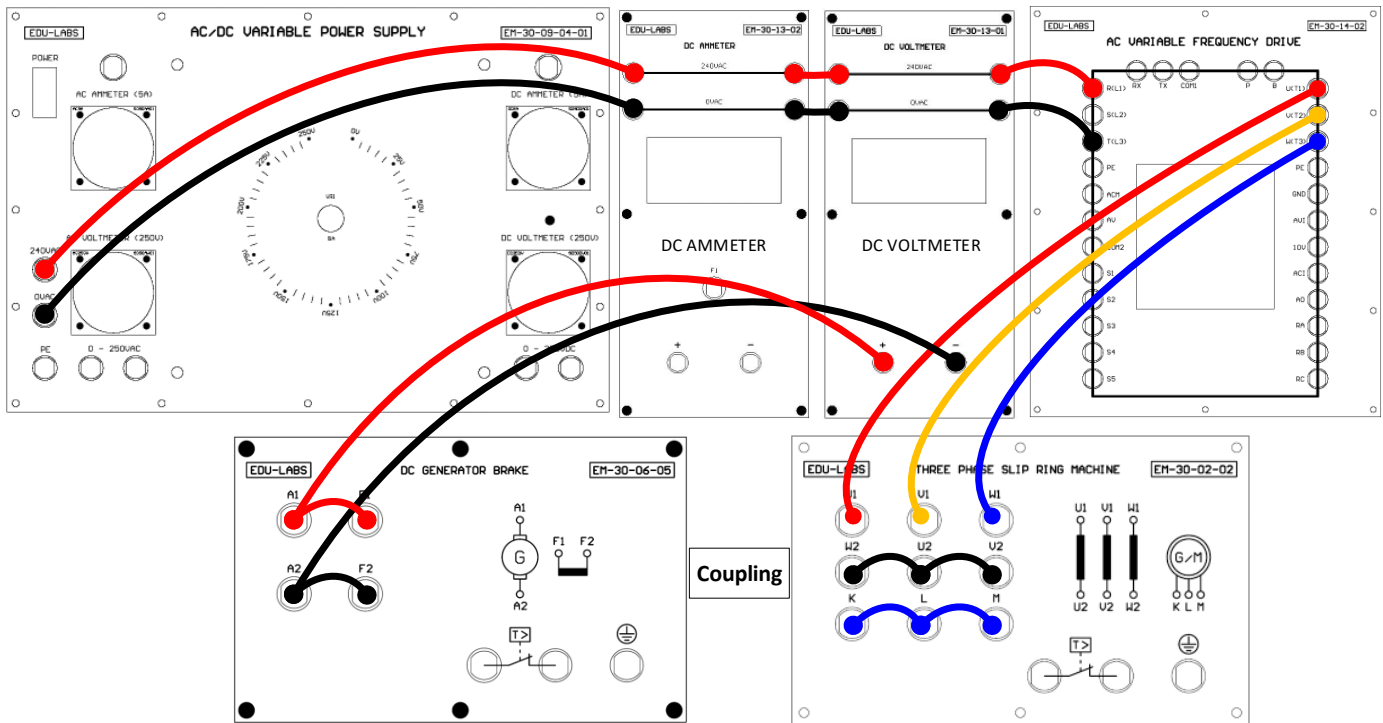

Fig 2.
- Construct the circuit as Fig 2. ON the AC/DC Variable Power Supply, adjust the Frequency knob of the AC Variable Frequency Drive, measured and record the values in the Table 2.